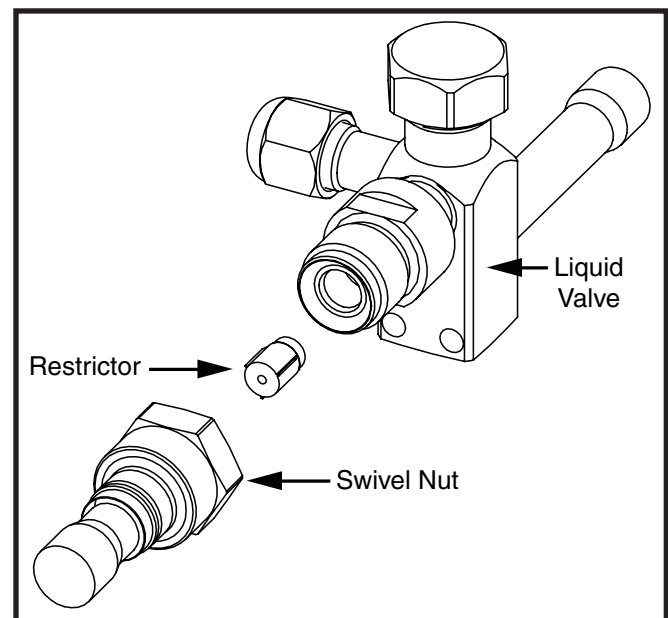

Figure 2. Liquid Valve, Restrictor, & Swivel Nut Adapter
If the outdoor unit has the liquid valve shown in Figure 2, then the restrictor is located inside the swivel nut
4. Insert the new orifice into the valve body, with the rounded end facing into the valve. See Figure 2 \(page 4\).